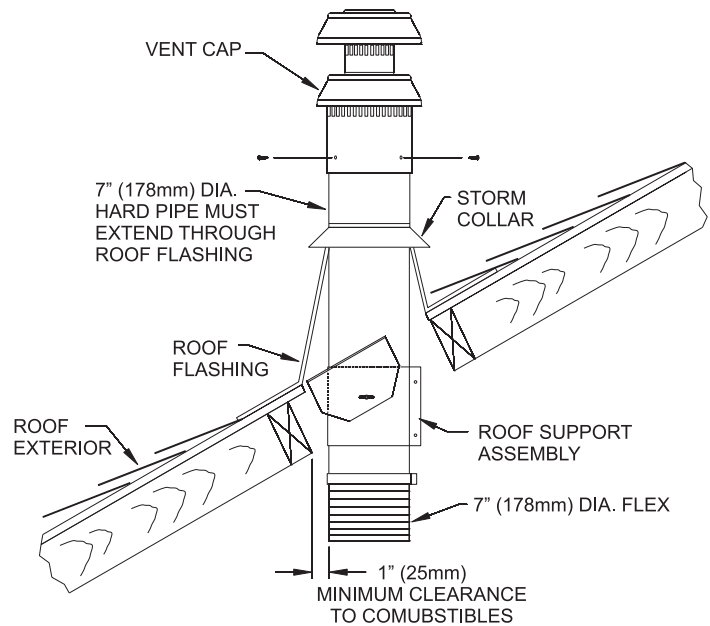

Figure 62
19. Once the lower connections are made and the flex pipe is secured with support bands as required (3 feet minimum between supports) then the roof flashing can be installed. **See Figure 62.**
23. **Figure 62** shows a completed installation with components identified and other installation information such as heights and clearance to combustibles.